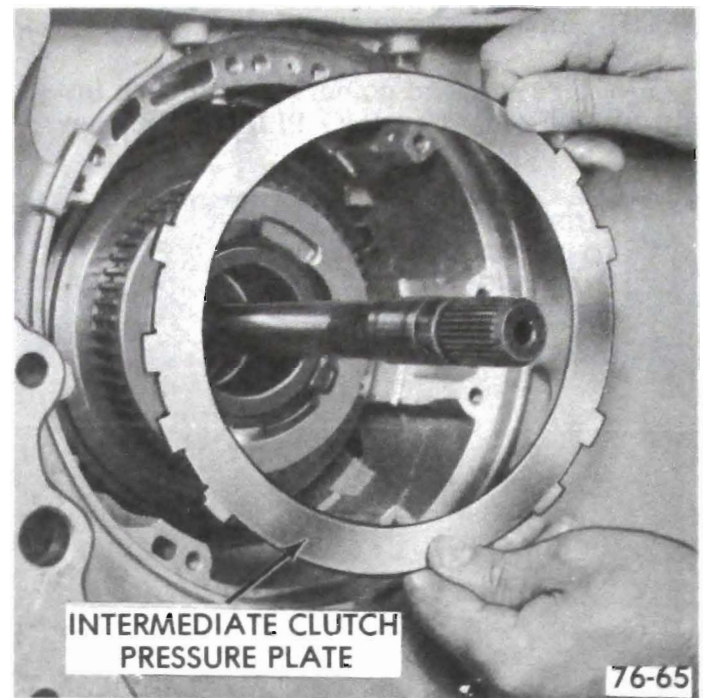

Figure 75-245
1. Install intermediate clutch pressure plate. See Figure 75-245.